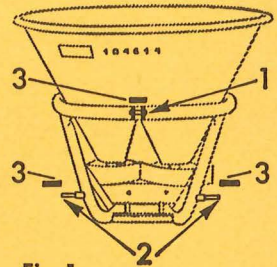

Fig. 1
- a) Fig. 1. The Amazone Twin Disc Fertilizer Broadcasters have been designed for quick and easy attachment to all Tractors with either Category I or II linkage. When fitting to the Hydraulic Lincage of a category II Tractor the three bushes (3) supplied for the hitch points (1 and 2) should be fitted. Ensure that the machine is level, that the P. T. O. guards are fitted and the P. T. O. shaft DOES NOT RUN AT AN ACUTE ANGLE.